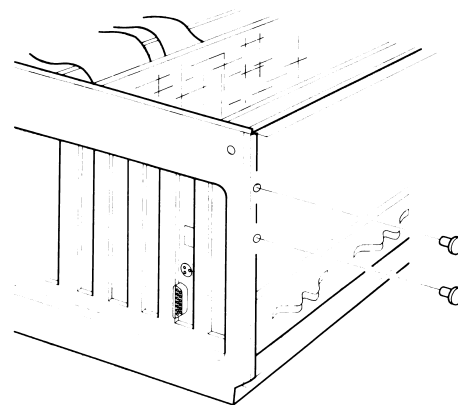

Figure 7-13. RF Shield.
3. Remove the RF shield (COMPAQ DESKPRO 286) (Figure 7-13).